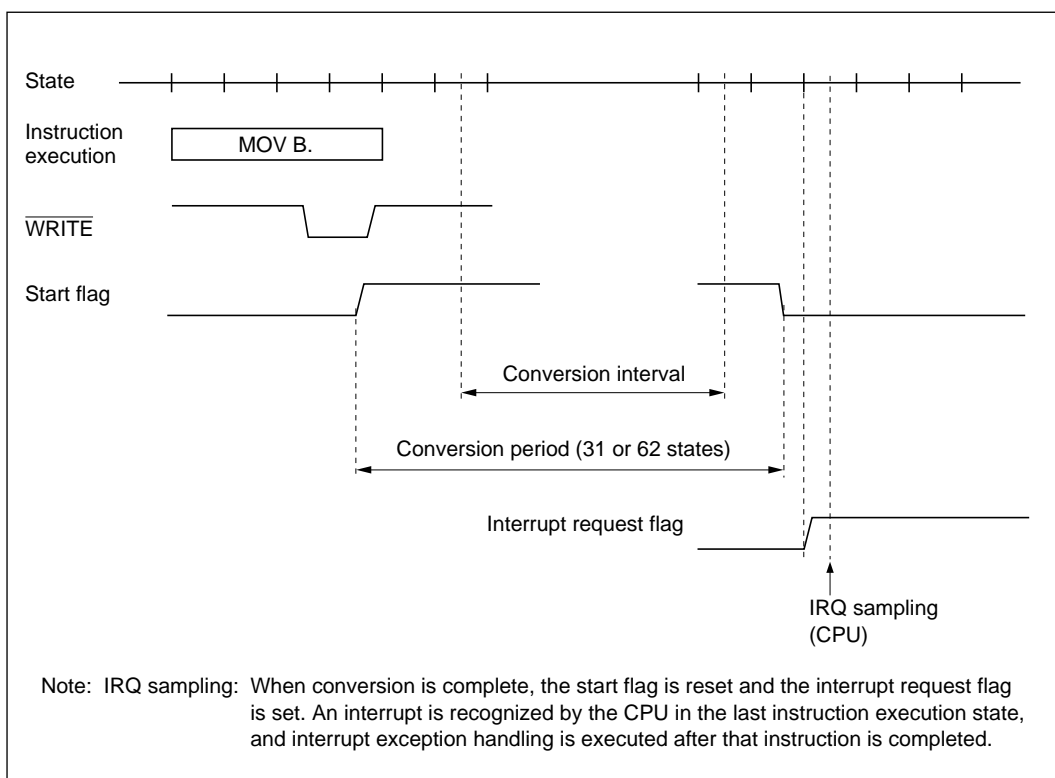

Figure 13-2 Internal Operation of A/D Converter
2. A/D conversion starts after a value of 1 is written to ADSF. The conversion period starts when the start flag is set and ends when it is reset upon completion of conversion. The actual time during which sample and hold are repeated is called the conversion interval (see figure 13-2).